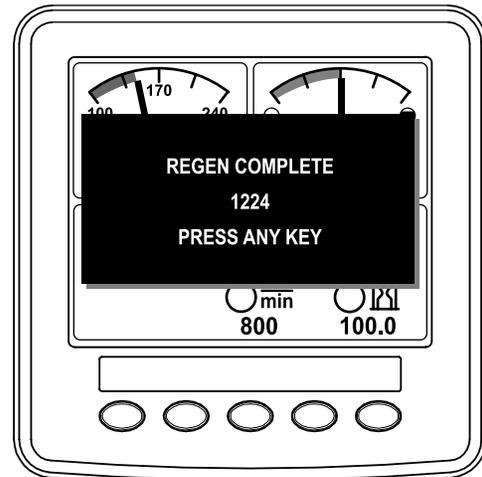

Figure 31
11. When the engine computer completes a parked or recovery regeneration, the InfoCenter displays ADVISORY #1224 (Figure 31). Press any button to exit to the home screen.